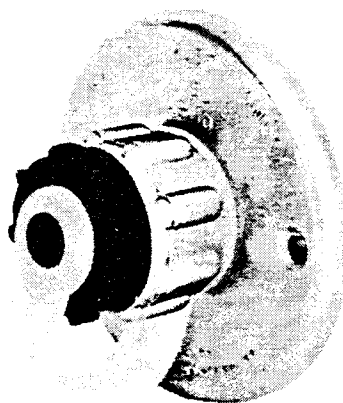

FIG. 11
**CITY WATER** — Connect a water hose to a pressurized water faucet and the city water fixture (FIG. 11). When using the city water hookup, the water tank and pump are bypassed. You cannot fill the water tank through the city water fixture.